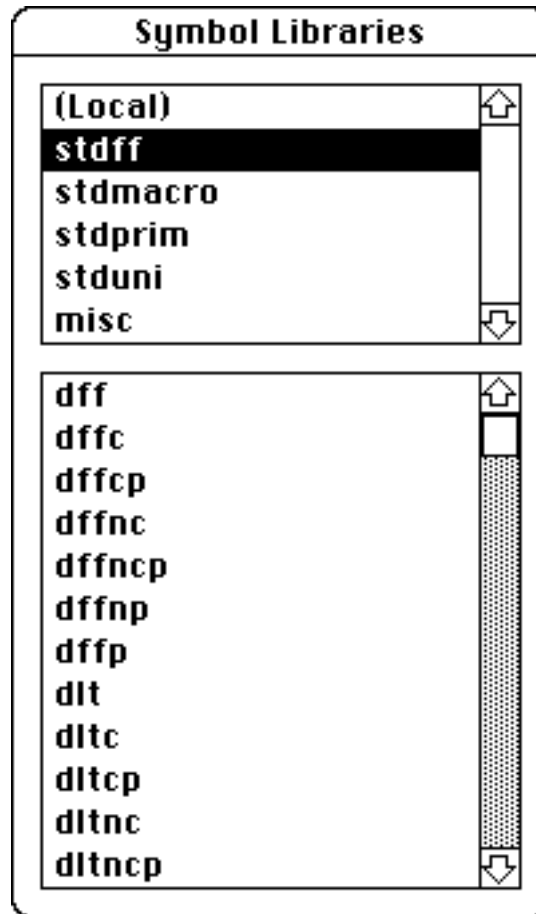

Figure 4-14 Symbol Library Selection Box
1. Select the **Add->Symbol** command. You are prompted to select a symbol from the list box displayed. Figure 4-14 shows the library list box.
2. Type the desired symbol name if you know it. If you don't know the symbol name, use the library list box as shown in Figure 4-14 to browse and select the desired symbol. Libraries are listed in the top half of the list box and the individual symbol files corresponding to the selected library are displayed in the bottom of the list box.